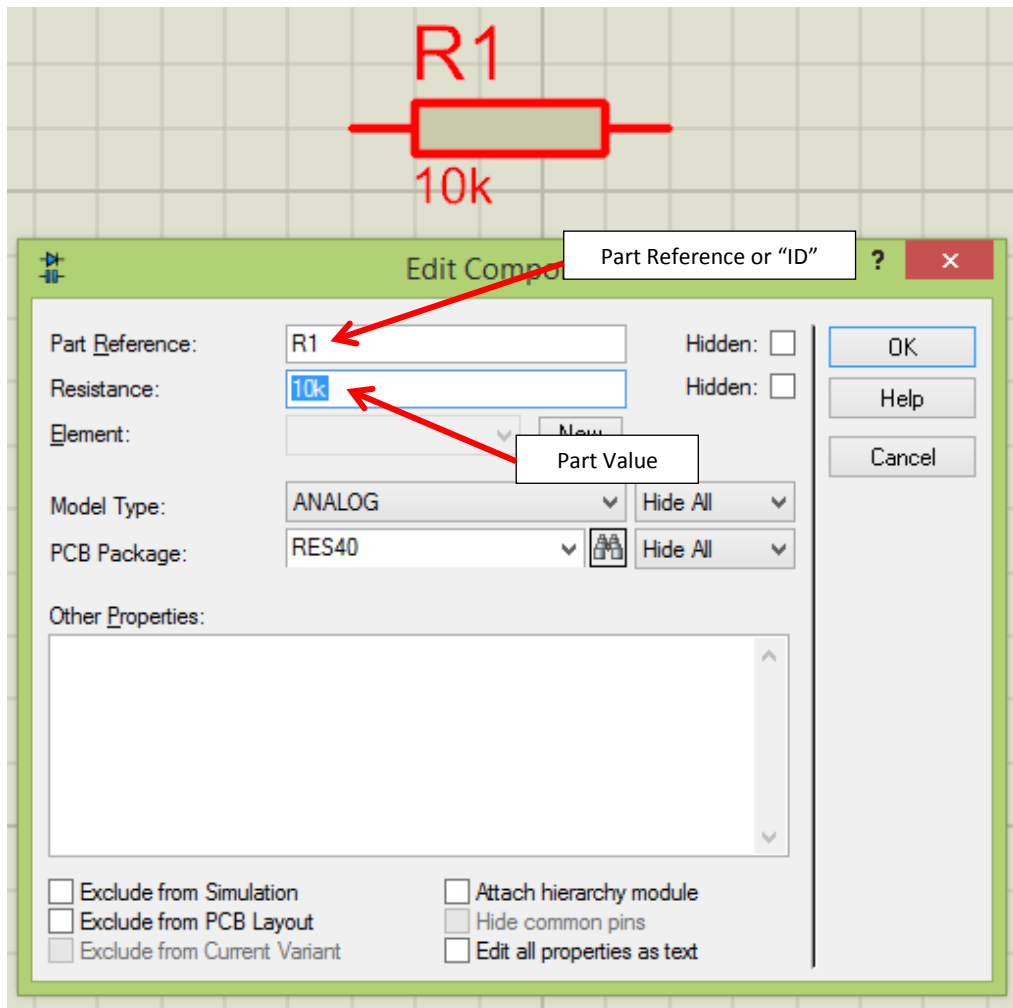

Figure 6-12: Edit Component dialogue
Both the **reference** and **value** of a component can be edited by right-clicking the component and then selecting “Edit Properties” from the pop-up menu; which will bring up the “Edit Component dialog” (Figure 6-12).
- j. Change the **values** (resistance) of the resistors to 330R (which stands for 330Ω, but it is easier to type “R” since most keyboards don’t have a “Ω” key). If you need a reminder on how to change a component value then please see section 6.3.5 / Figure 6-12. If you are wondering whether there are easier ways to change the values of the resistors (rather than doing so manually one-by-one) then the answer is yes; the LED and resistor circuit could be first constructed / set and then duplicated (as described in the next section), or a tool called the “Property Assignment Tool” could be used to more quickly set the values of all of the resistors. Use of the “Property Assignment Tool” (“PAT”) is beyond the scope of this book, however information is available in the Proteus Schematic Capture help file. If in doubt, then the simplest solution for now is to just edit the values one-by-one (there are only 5 of them).